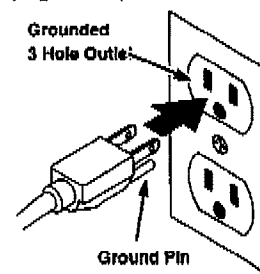

FIG. 35
6. Plug charger's power supply cord into a grounded wall outlet (Figure 35).